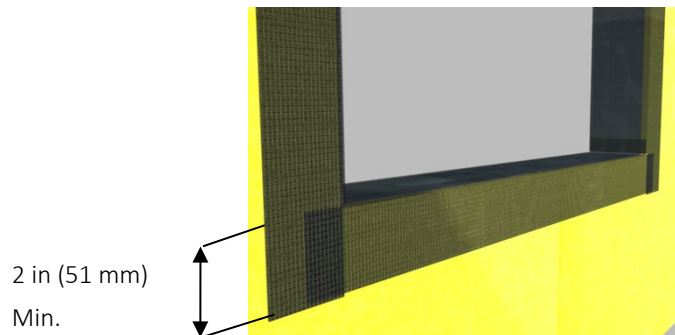

Fig. 3
- 4) Install the AquaFlash System at the jambs in the same manner overlapping onto the sill material a minimum of 2 in (51 mm) – Figure 3.